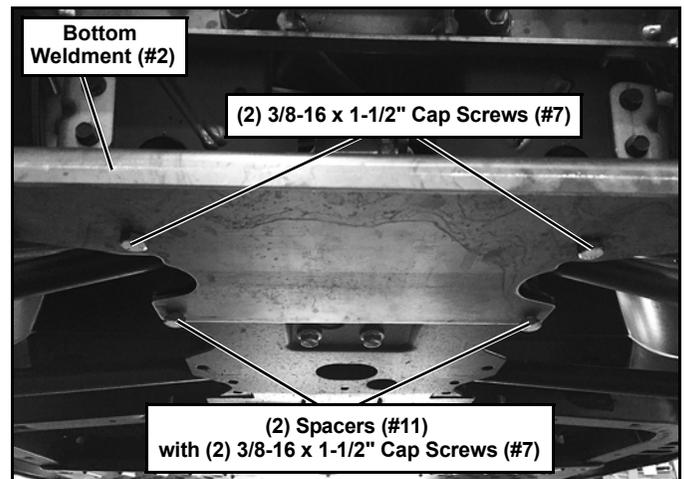

Figure 6
- Align the 4 holes in the Bottom Weldment (#2) with the 4 holes in the bottom of the frame. Align (2) Spacers (#11) with the rear holes and insert between the Bottom Weldment (#2) and frame. (See Figure 6.)
- Insert (4) 3/8"-16 X 1 1/2" Cap Screws (#7) into the Bottom Weldment (#2) and thru the frame. Secure with (4) 3/8"-16 Lock Nuts (#9). (See Figure 6.)